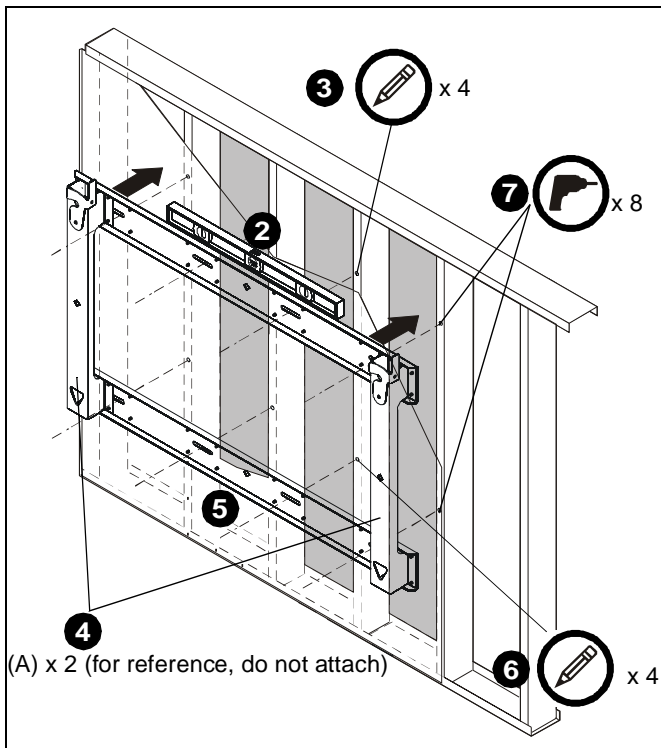

Figure 1
1. Raise upper horizontal bracket (C) against wall in desired installation location. (See Figure 1)
3. Using a pencil, or similar marking tool, mark the location of mounting holes in base onto surface. (See Figure 1)
4. Hang two outside vertical brackets (A) from upper horizontal bracket to determine mounting position for lower horizontal bracket. (See Figure 1)
5. Raise lower horizontal bracket (C) against wall in desired installation location using vertical brackets to determine distance from upper horizontal bracket. (See Figure 1)
6. Mark the location of mounting holes for the lower horizontal bracket in base onto surface. (See Figure 1)
7. Drill eight pilot holes at marked locations. (See Figure 1)